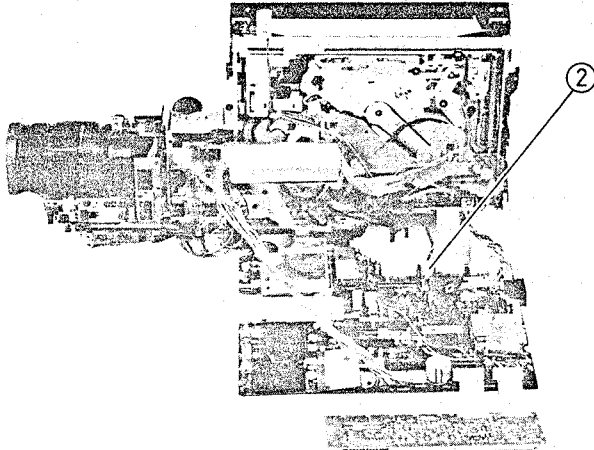

Fig. 2-55 Audio/Control (A/C) Head Removal
Audio/Control (A/C) Head Removal (Figs. 2-55, 2-56, 2-57)
2. Disconnect connector CN611. (See Fig. 2-55)